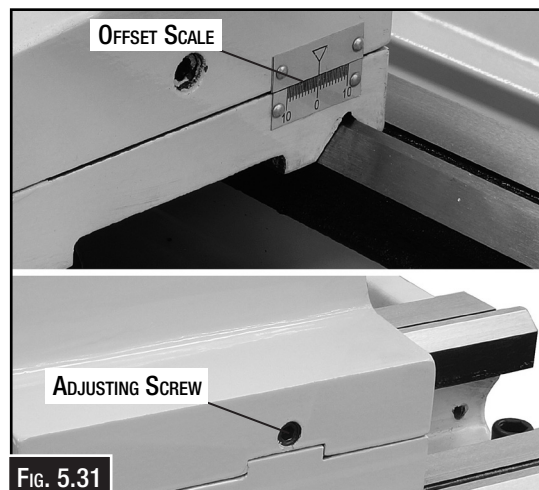

FIG. 5.31
By offsetting the tailstock, the dead center can hold a workpiece off centre from the spindle centerline so tapers and pipe threads can be cut. An offset scale (Fig. 5.31) with increments is located at the rear of the tailstock. However, to achieve exact taper angles, or to adjust the tailstock back into the spindle centerline, angle gauges and a test indicator must be used.
2. Using a hex wrench loosen one of the front or rear adjustment screws shown in Fig. 5.31.